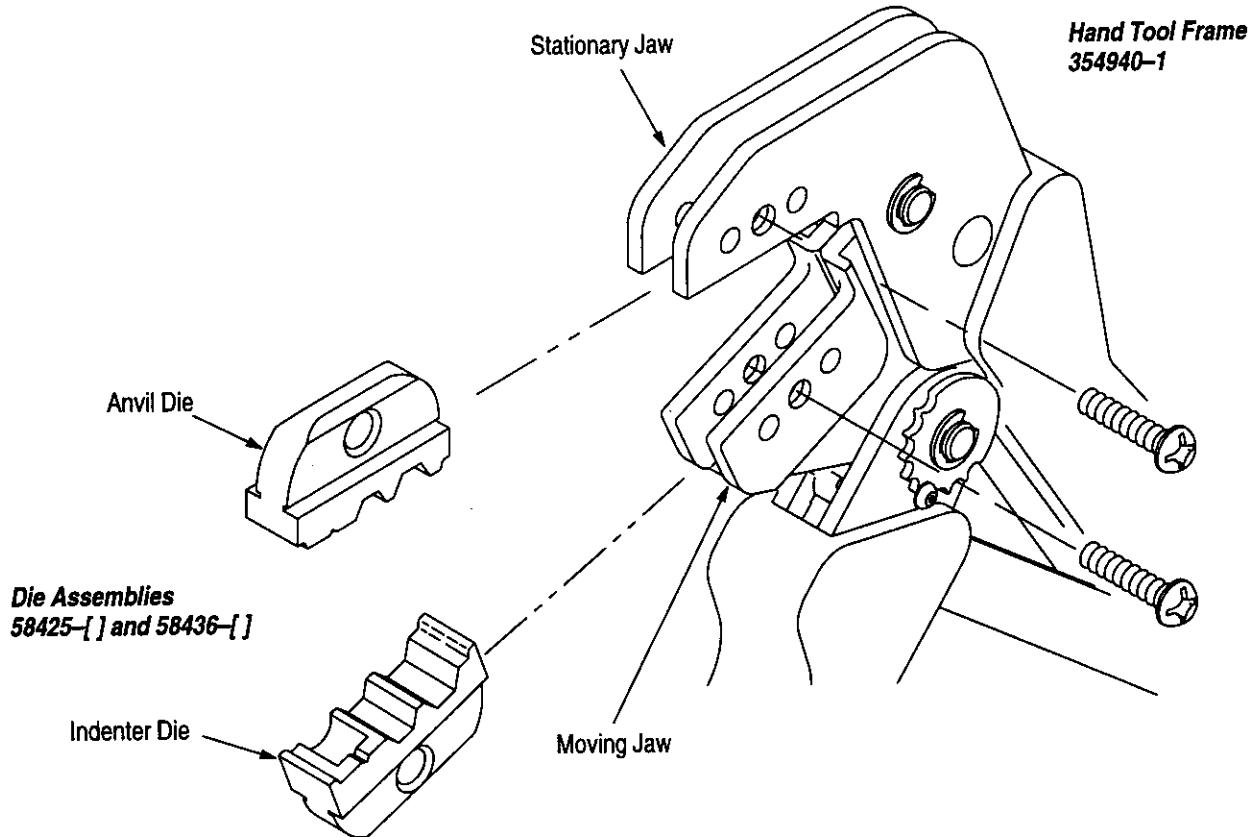

Figure 1
**2. DESCRIPTION (Figure 1)**
2. See Figure 1 for normal orientation of the dies. Insert the dies inside the tool jaws and align the retaining screw holes.
Customer-replaceable parts are shown in Figure 1. Available separately, AMP PRO-CRIMPER II Repair Kit 679221-1 includes a variety of pins, rings, screws, and springs. If the dies are damaged or worn excessively, they must be replaced. Order the repair kit and replaceable parts through your AMP representative, or call 1-800-526-5142, or send a facsimile of your purchase order to 1-717-986-7605, or write to: